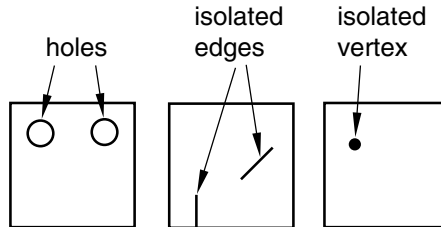

Figure 17-44 Regions that cannot be structured meshed.
- The region has no holes, isolated edges, or isolated vertices. Figure 17-44 shows regions that cannot be structured meshed.